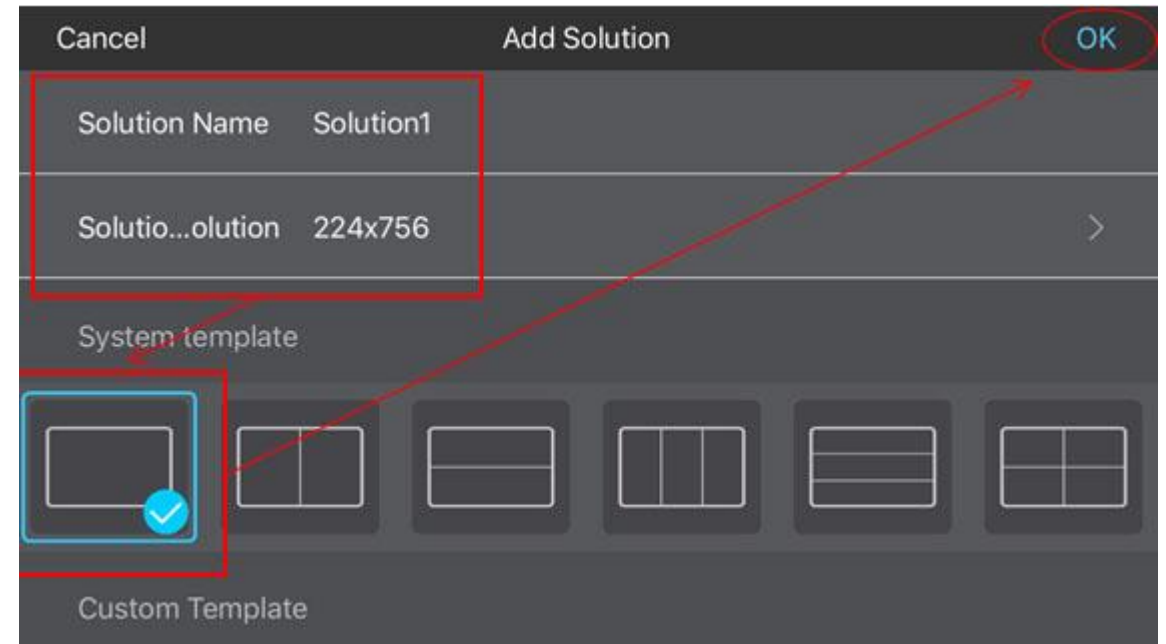

fig 7.16
- Select one template for CRIUS in [System template], please refer to fig7.16.